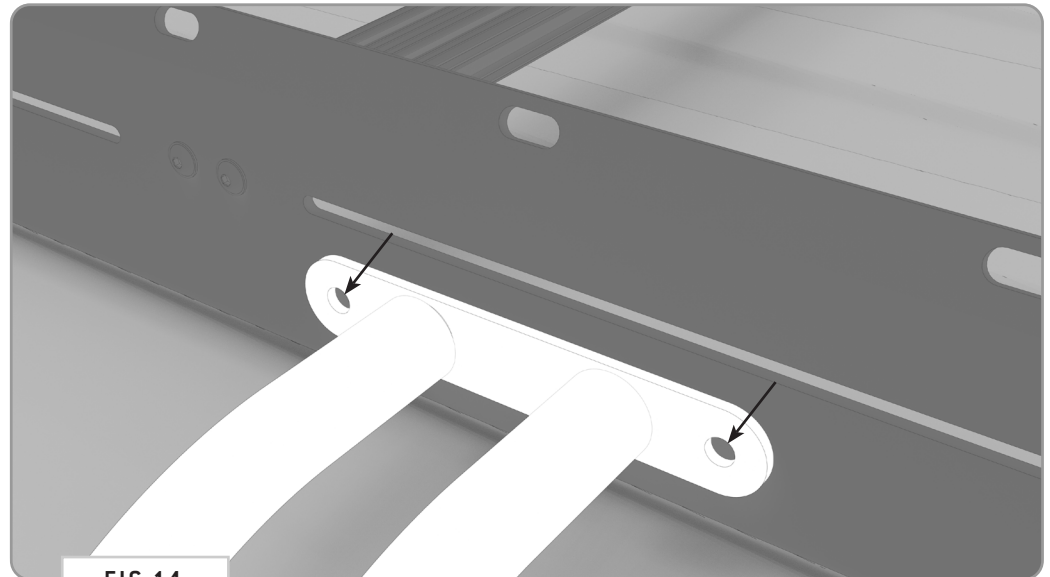

FIG 14
5.1 Mark Drill Holes: Once you have ensured alignment, mark the **Drill Locations** through the mounting points of the **Surf Pole** (**FIG 14**).